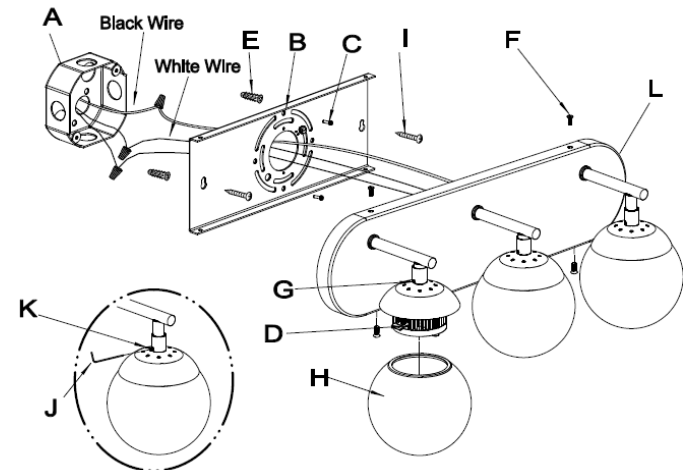

Fig.2
CONNECTING THE WIRES (FIG. 2)
7. At this point, connect the electrical wires as shown in Fig. 2, making sure that all wire connectors are secured. If your outlet has a ground wire (green or bare copper), connect the fixture's ground wire to it. Otherwise, connect the fixture's ground wire directly to the back plate (B) using the green screw provided. After wires are connected, tuck them carefully inside the junction box.